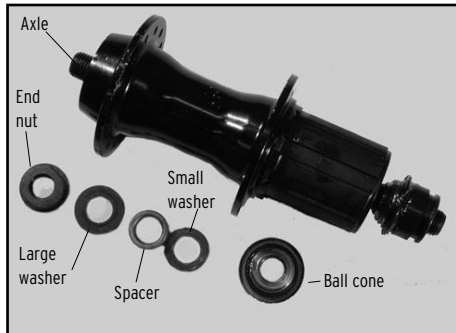

Fig. 4D
4. Remove the end nut, large washer, spacer, small washer, and ball cone from the axle (Fig. 4D).